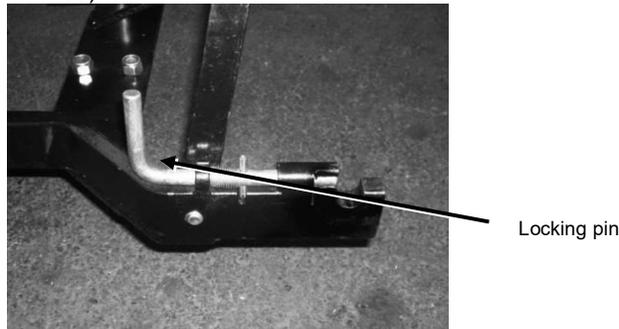

Fig. 50: Locking pin (unlocked) on the lower link
6. Crank the front support wheel of the CLS and push the implement toward the tractor until the cross strut is positioned above the catch hooks of the basic hitch (see Fig. 50).
6. Unlock the lock bolts on the lower link of the hitch, see Fig. 50.